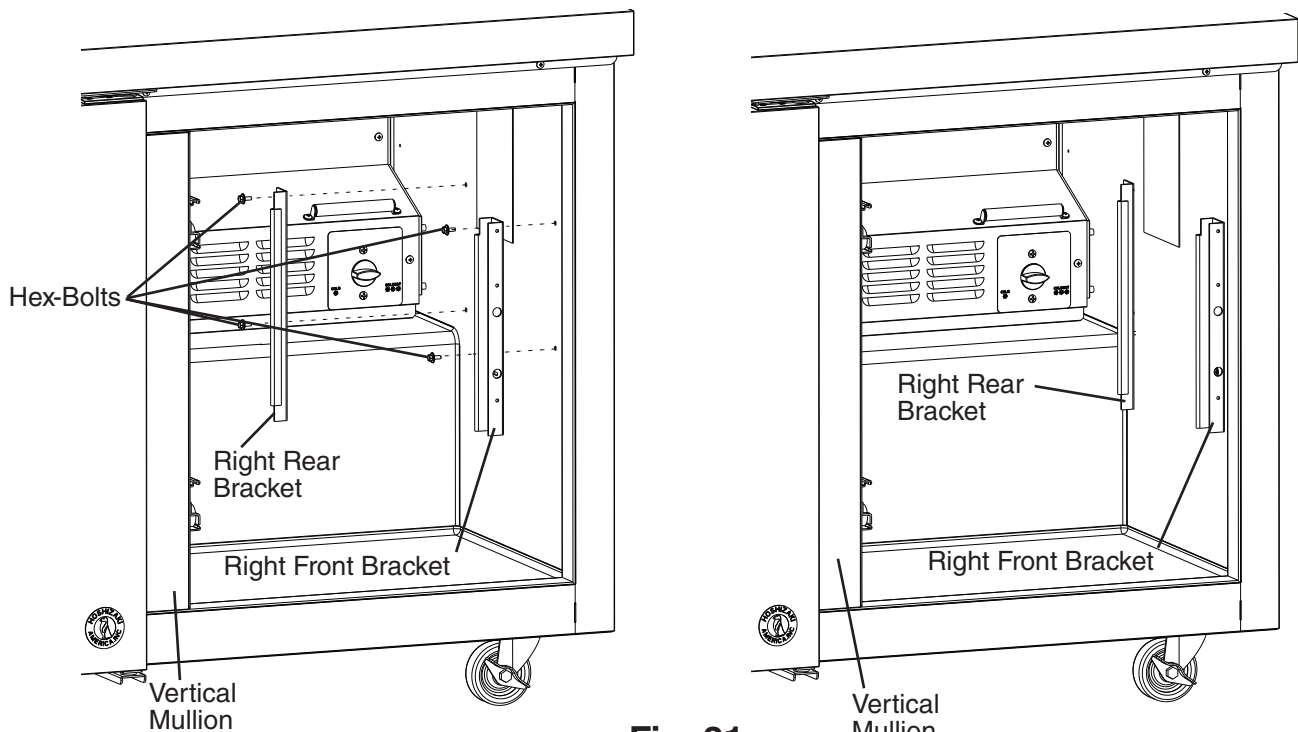

Fig. 31
- 23) Place the right rear bracket in place on the right side panel with the hex-bolts removed in step 4. Leave loose, do not tighten at this time. See Fig. 31.
- 24) Place the right front bracket in place on the right side panel with the hex-bolts removed in step 4. Leave loose, do not tighten at this time. See Fig. 31.